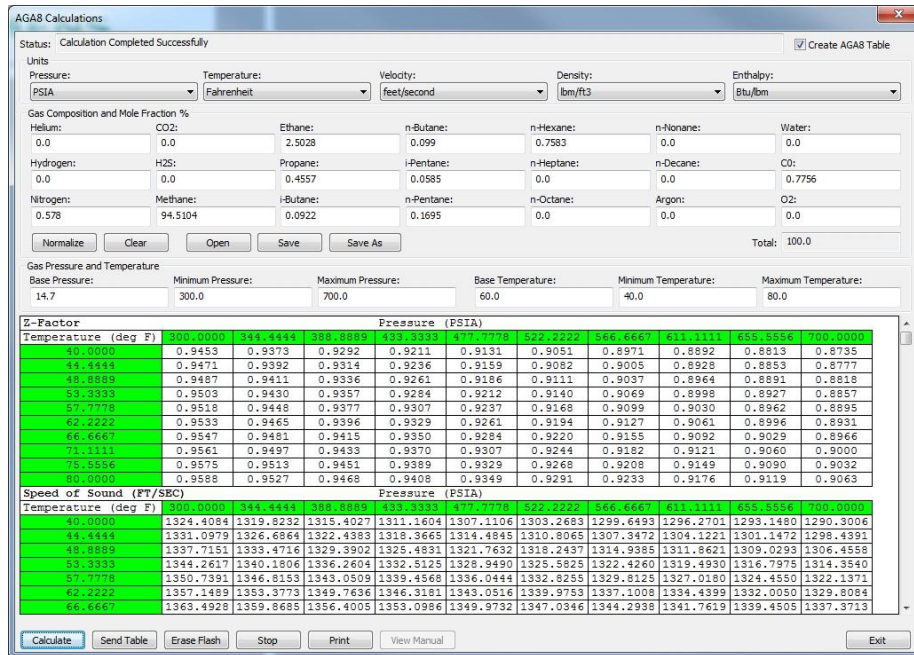

Figure 6-3 AGA8 Table Data
- Click the [Calculate] button to generate the AGA8 table as illustrated in Figure 6-3 below